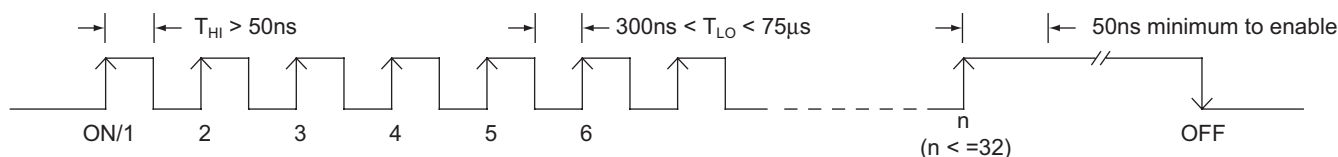

Figure 3: Enable / Disable / LED Brightness Level Set Data Input.
**High Efficiency 1.5X Fractional Charge Pump For White LED Applications****Figure 3: Input Power vs. LED Current.****Capacitor Selection**